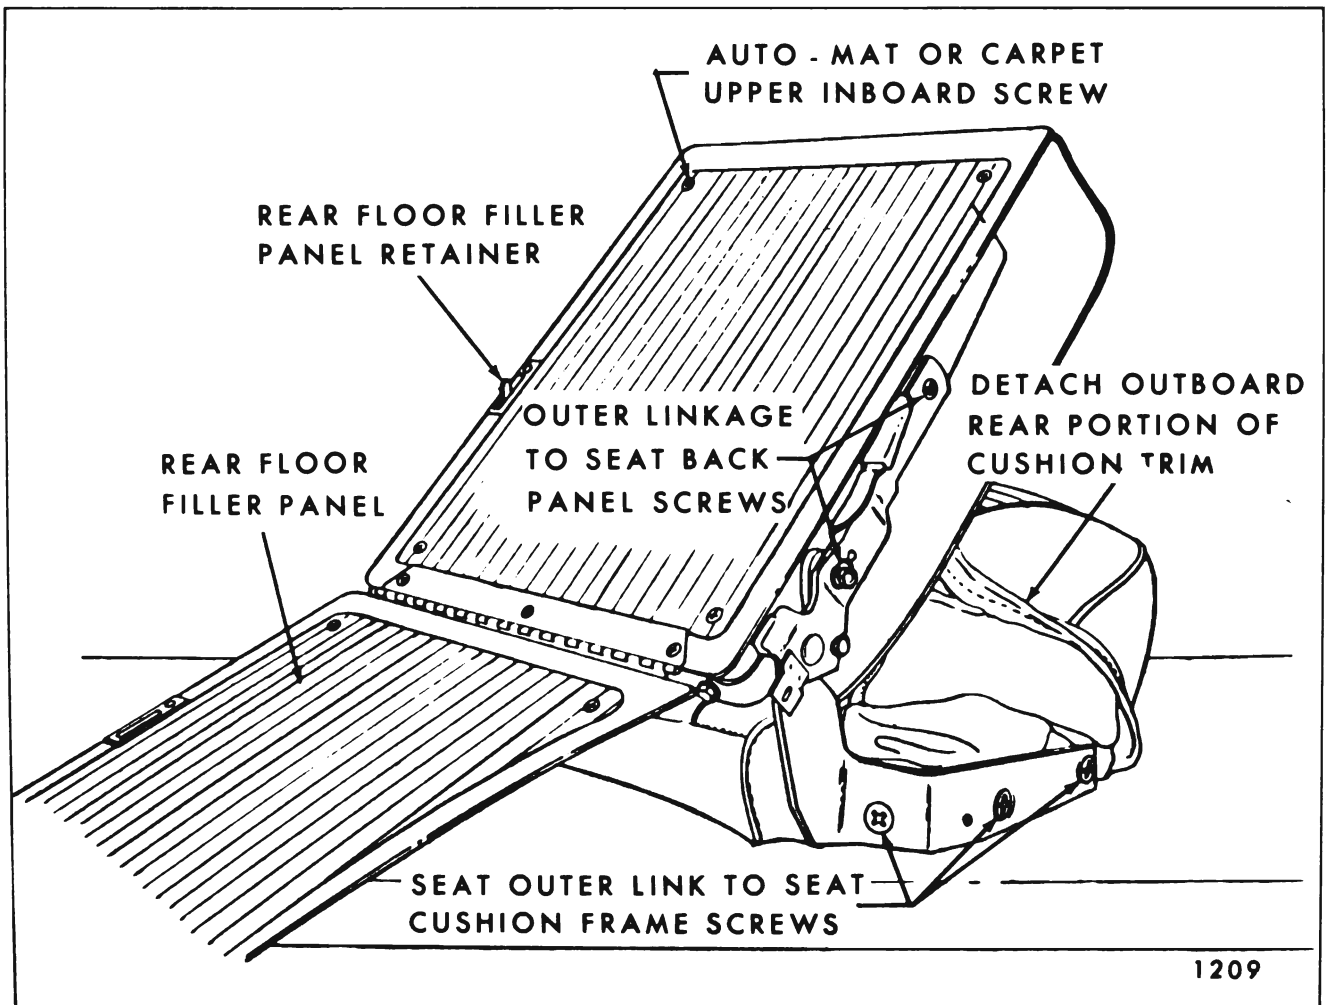

Fig. 15-71 —Folding Second Seat Outer Linkage
2. Remove hog rings and detach outboard rear portion of trim sufficiently to remove three screws securing seat outer link to cushion frame (Fig. 15-71).
NOTE: If seat back trim does not readily disengage from seat back panel, fold rear floor filler panel down and remove upper inboard screw securing automat or carpet (Fig. 15-71). Then remove seat back trim assembly.
3. Remove hog rings and detach rear portion of trim sufficiently to remove three screws securing outer linkage to seat cushion frame. (See Fig. 15-71).
4. Remove outer linkage-to-seat back panel attaching screws (see Fig. 15-71); then, remove linkage and seat back catch from seat.
2. Remove outer linkage-to-seat back panel attaching screws (See Fig. 15-71).
3. Install lock handle attaching screw; then, install outer linkage to seat back panel attaching screws (Fig. 15-71).